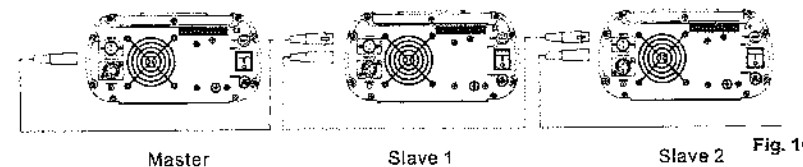

Fig. 10
4. The connection of Master/Slave Control Mode (See Fig. 10):